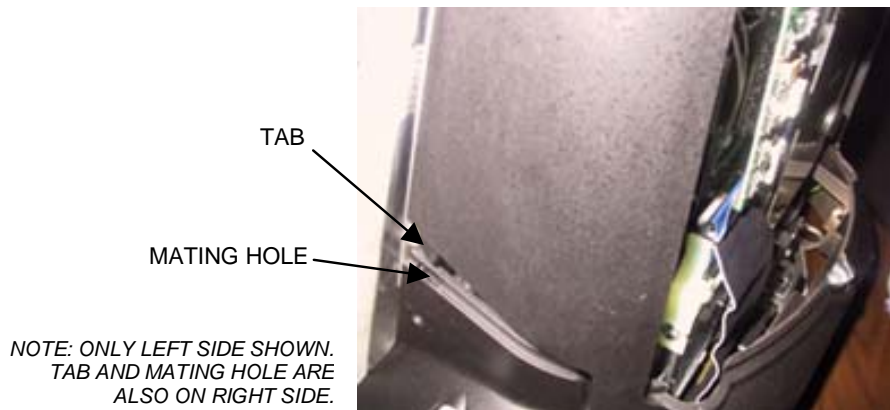

FIGURE 8 - SIDE VIEW OF GAME
6. Reconnect the ground wire to the rear cover and lower the cover into place, carefully lining up the 2 tabs on the cover with the 2 mating holes on the sides of the game (see Figure 8). Make sure that the plastic lip on the bottom of the rear cover is behind the metal base.